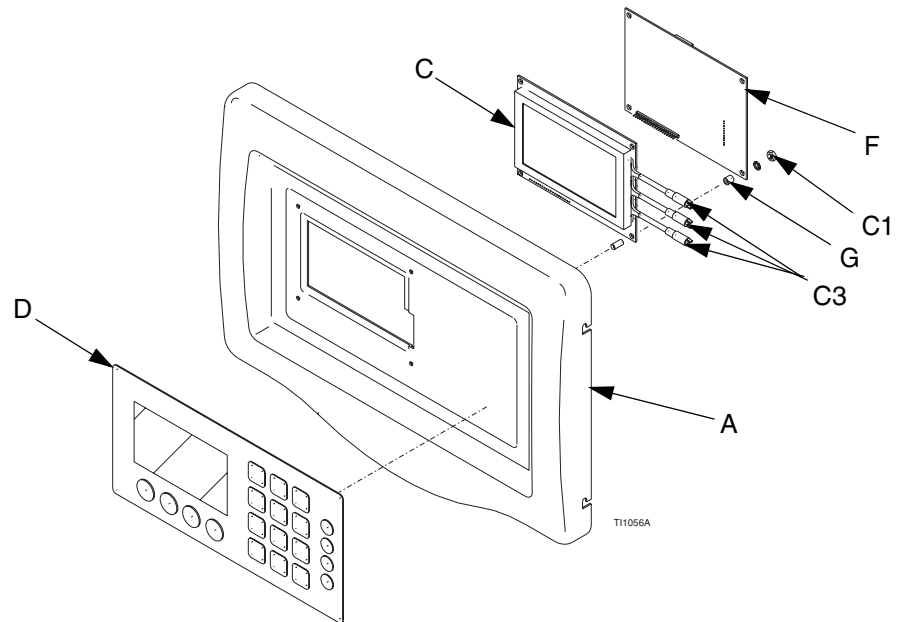

FIG. 15
2. Remove controller cover (A). See page 37, steps 1-4.
3. Unplug keypad (D) ribbon cable from the display board. Note position of cable in connector. Arrow indicates pin #1, reconnect with pin #1 engaged.
4. Remove four nuts (C1) from the board. See FIG. 15.
6. Unplug three fiber optic connectors (C3) from the diodes, then remove display board (F).
- Spacers (G) must be used in correct positions to protect the display and board.
2. Remove the display (C). See FIG. 15.
- *Spacers (G) must be used in correct positions to protect the display and board.*
2. Remove display (C). See FIG. 15.
3. Peel the membrane (D) off the controller cover.
4. Remove adhesive liner from the new membrane. Align the membrane with recessed area on the panel (A), and press it into place.